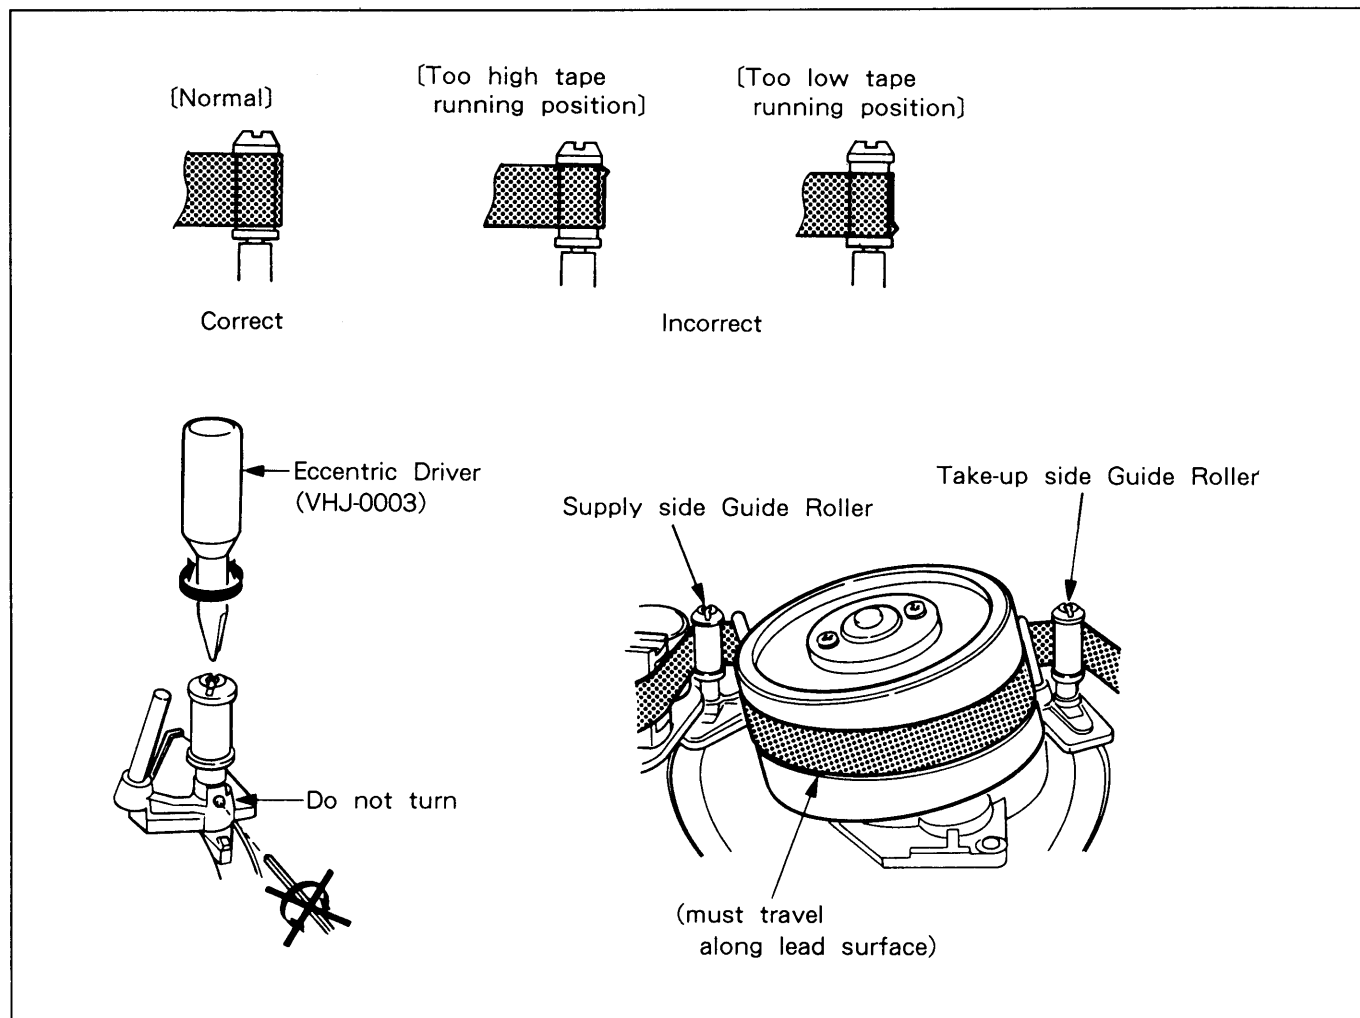

Fig. 6-4-3. (2) Pre-set for Guide Roller
(2) Guide Rollers (See Fig. 6-4-3.)